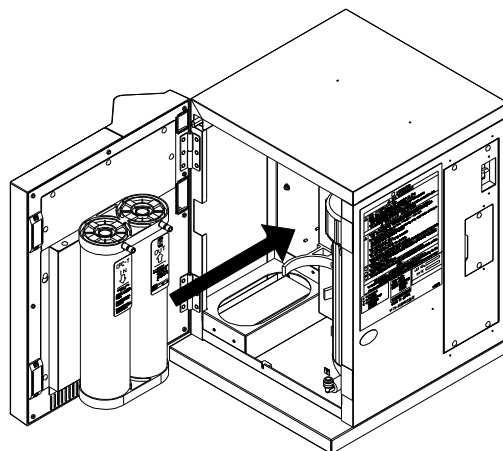

Figure 1
- (1) Remove rubber cap from ion exchange resin cartridge.
- (2) Install ion exchange resin cartridge securely into the resin drum installation plate, inside the WE200 unit. (See Figure 1.)